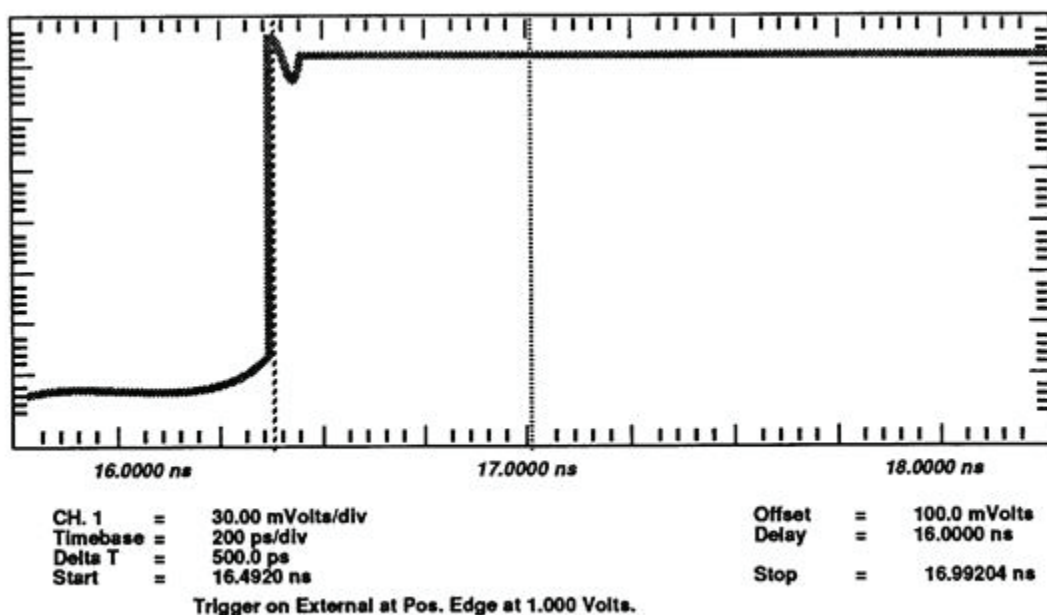

Figure 18. Setting start and stop markers.
h. Adjust timebase delay until the rising edge is approximately 2 divisions from the left side of the display (fig. 18).
j. Adjust TDR BIAS on horizontal assembly A1 (fig. 11) fully ccw, then slowly adjust TDR BIAS (fig. 11) cw until the pulse overshoot just starts to appear (first overshoot) (fig. 18). If overshoot is already on the display with TDR BIAS (fig. 11) fully ccw, adjust TDR DRIVE (fig. 11) slightly ccw until overshoot disappears. Then adjust TDR BIAS (fig. 11) cw until overshoot appears.
l. Set the **START MARKER** to the leading edge of the step, and set the **STOP MARKER** 500 ps to the right of **START MARKER** (fig. 18).